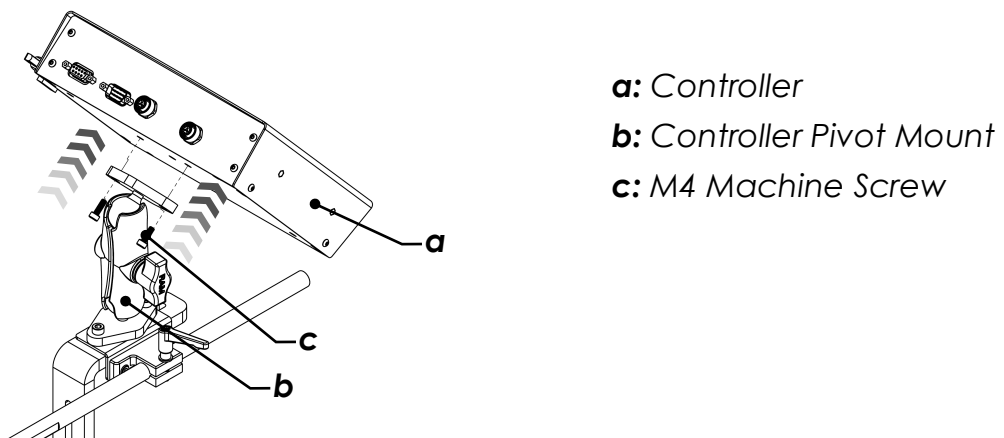

Figure 8
- Align the other two pre-drilled holes on the pivot mount with the pre-tapped holes under the controller and fix them together using M4 screws. (see Figure 8)